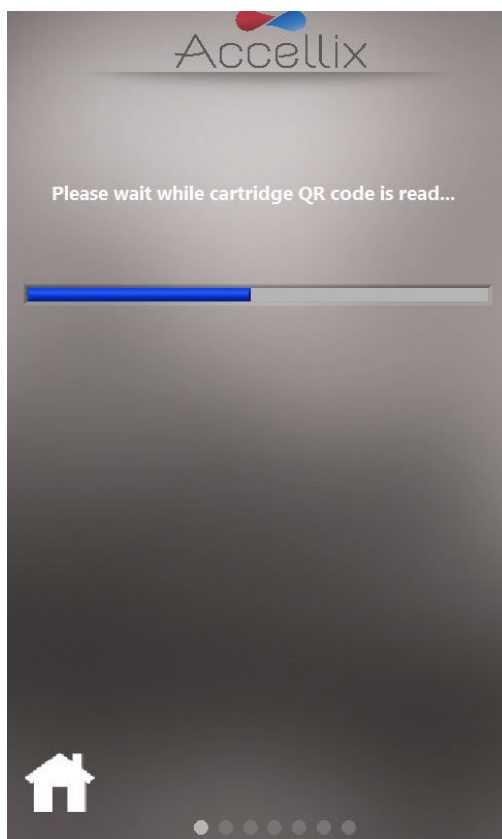

Figure 36: Reading Cartridge QR Code screen
5. The screen instructs the user to wait while the instrument reads and registers the QR code information on the cartridge (Figure 36).